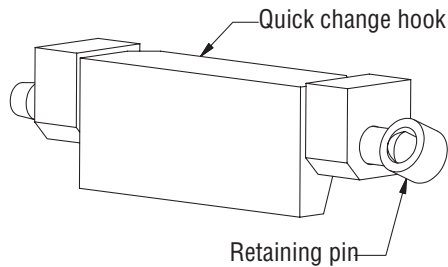

Figure 4-2, Quick Change Hook
3. Remove the lower bolt-on retainers and, if applicable, make a note of any factory installed shims. Shims are used to space the retainer closer to the truck carriage. if the attachment is equipped with quick change hooks, simply remove the retaining pin and the quick change hook (Figure 4-2).